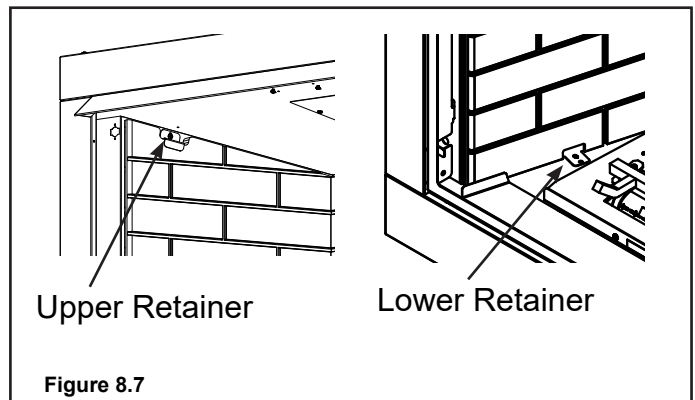

Figure 8.7
1. Remove (2) screws securing left side upper and lower refractory retainers. See Figure 8.7. Remove left side refractory and set aside.